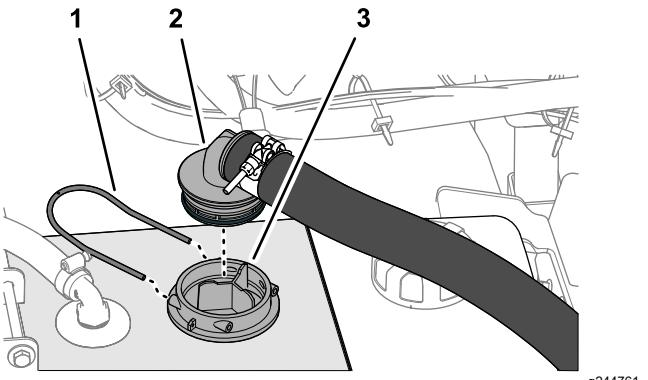

Figure 17
2. Secure the 90° barbed fitting to the housing for the suction screen with the retainer fork (Figure 17).
1. Insert the 90° barbed fitting of the suction hose to the housing for the suction screen until the fitting is fully seated (Figure 17).